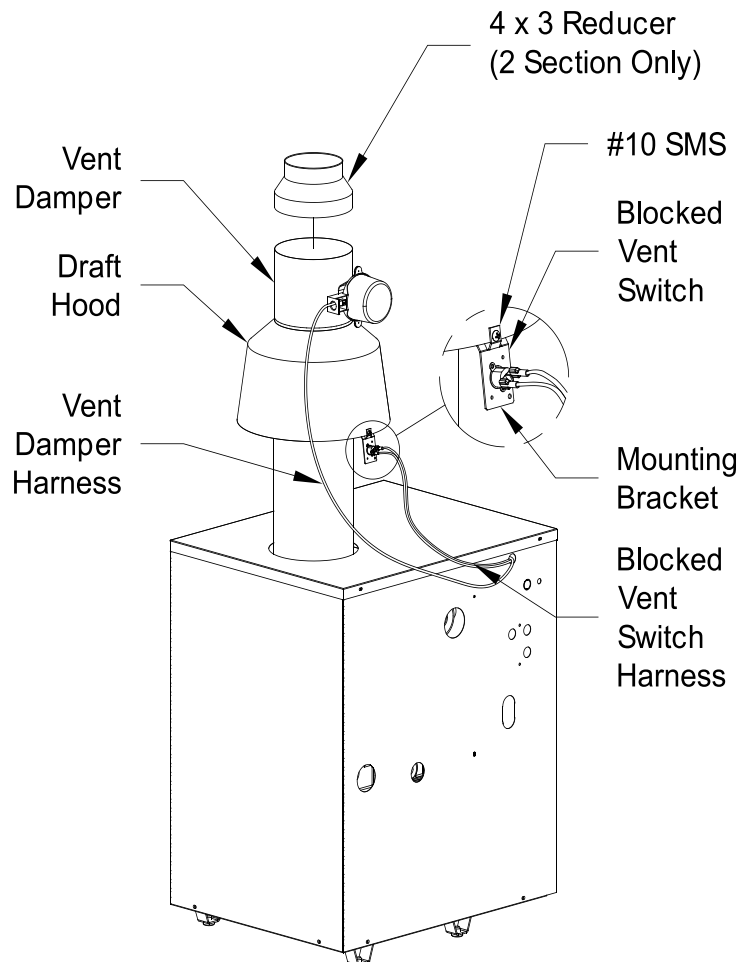

Figure 6-1: Blocked Vent Switch Installation Diagram
- A. Position mounting bracket (with switch attached) onto lower edge of draft hood skirt by locating center tooth (with #10 sheet metal screw) on outside and other two teeth inside draft hood skirt. See Figure 6-1.
- C. Be sure power cord, mounting bracket, and switch are secure and located as shown in Figure 6-1.
- B. Mount the vent damper assembly onto draft hood. (Damper can be mounted vertically or horizontally). See damper manufacturer instructions for more information. Do not modify either draft hood or vent damper. See Figure 6-1.
- E. For 2 section boiler only, install supplied vent reducer after damper. See Figure 6-1.